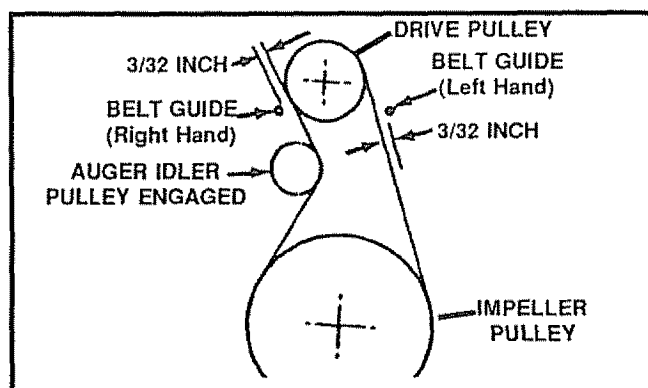

FIG. 26
- Loosen the right hand belt guide (See Fig. 26) and pull away from the drive pulley.
- Measure the distance between the belt guides and the belt (See Fig. 26). The distance should be  $3/32$ " for each guide.